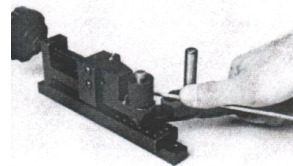

Figure 2
5. Pull the handle in a clockwise direction for a 1/4 turn. This should result in a 90degree bender. If desired, you may insert the Stop Pin (#16) at the appropriate hole for repetitive bends. Typically, this will be the hole at the front of the bender (furthest away from the Vise Control Knob), second from the right as shown in Figure 2.